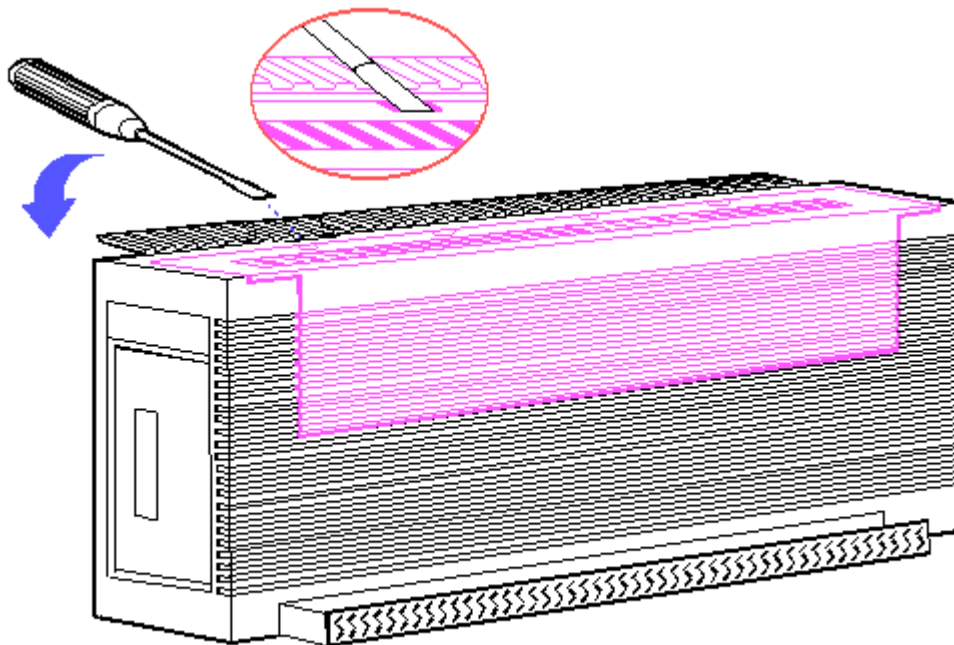

Figure 8-103. Popping Up the Expansion Unit Cover
7. Insert a flat blade screwdriver in each of the four notches on the expansion unit and gently pop up the expansion unit cover (Figure 8-103).